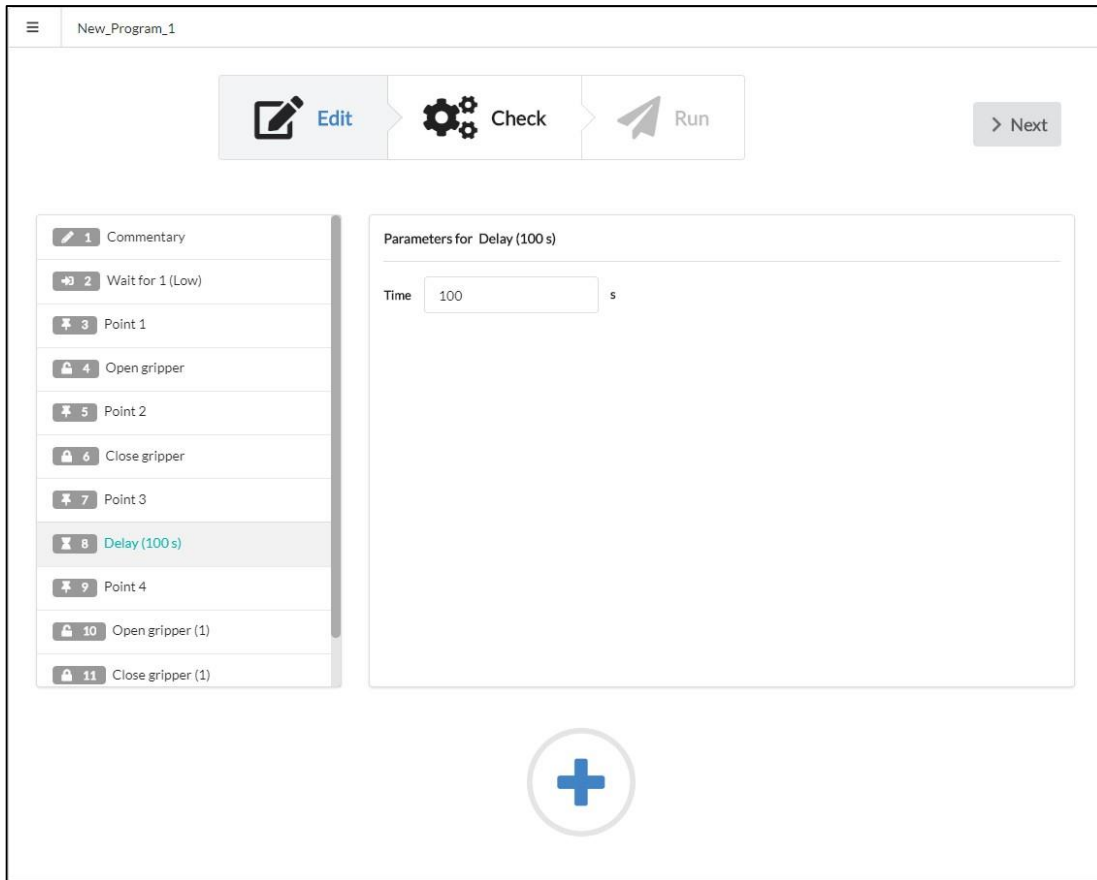

Figure 5-7: Setting the parameters for the Delay command
1. In the **Program Body**, select the required **Delay** command line. The **Service panel** displays the field for parameter setting as shown in **Figure 5-7**.